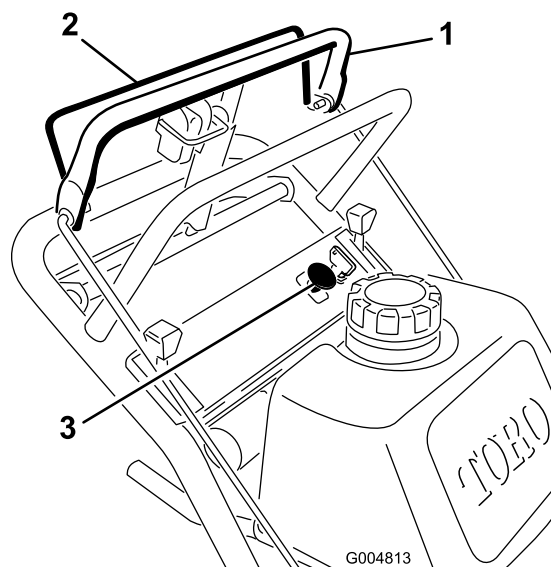

Figure 8
1. Release the upper control bar to stop the machine (Figure 8).
2. To engage the blades, squeeze blade control bail against the upper control bar (Figure 8).
Release the blade control bail to disengage the blades (Figure 8).